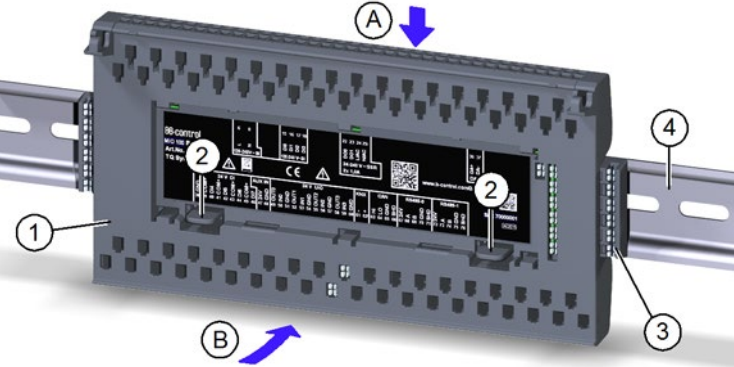

Fig. 4: Place the backplane on the DIN rail
- ▶ Arrange the backplane (item 1 in Fig. 4) so that the two tabs (item 2 in Fig. 4) are underneath.
- ▶ Holding the backplane at an angle, engage it from above (item A in Fig. 4) in the top edge of the DIN rail (item 4 in Fig. 4).
- ▶ Carefully press the backplane (item 1 in Fig. 4) against the DIN rail (item 4 in Fig. 4) until it snaps into place (item B in Fig. 4).
- There must be no backplane connector (item 3 in Fig. 4) inserted on the last module of a row of DIN rails or on the last module of the entire installation.
- To detach the backplane from the DIN rail, press the two tabs (item 2 in Fig. 4) down lightly and swivel the backplane up.